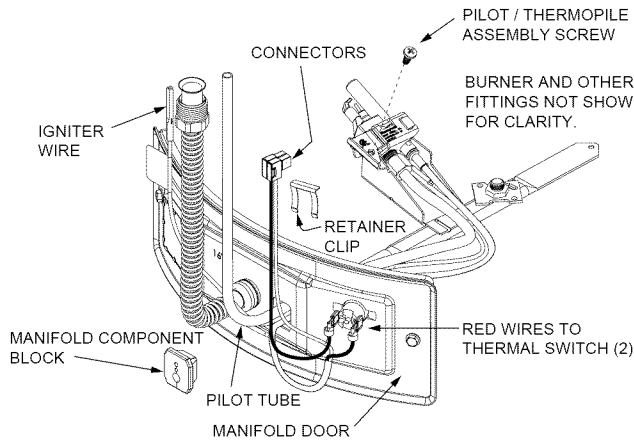

FIGURE 35.
4. Lift the retainer clip straight up from the back of the manifold component block (using a flat-blade screwdriver), then remove the manifold component block from the manifold door (Figure 35). **IMPORTANT:** Be careful not to bend or alter the position of the pilot tube, it will be used
7. Route the new pilot tube and wires through the opening in the manifold door. See Figure 35.